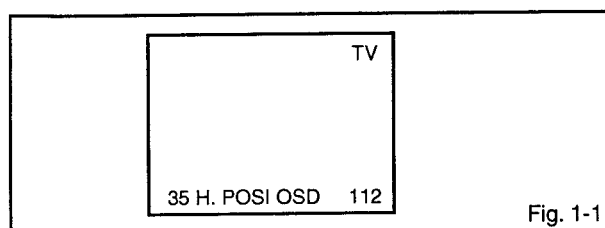

Fig. 1-1
1. In the condition of NO indication on the screen. Press the VOL. DOWN button on the set and the Channel button (9) on the remote control for more than 2 seconds to appear the adjustment mode on the screen as show in FIG. 1-1.
4. Activate the adjustment mode display of Fig. 1-1 and press the channel button (01) on the remote control to select "RF AGC".
2. Activate the adjustment mode display of Fig. 1-1 and press the channel button (00) on the remote control to select "CUT OFF".
4. Activate the adjustment mode display of Fig. 1-1 and press the channel button (04) on the remote control to select "R CUT OFF".
3. Activate the adjustment mode display of **Fig. 1-1** and press the channel button (08) on the remote control to select "H POSI(50)".
7. Activate the adjustment mode display of **Fig. 1-1** and press the channel button (39) on the remote control to select "H POSI(60)".
3. Activate the adjustment mode display of **Fig. 1-1** and press the channel button (11) on the remote control to select "V SIZE(50)".
7. Activate the adjustment mode display of **Fig. 1-1** and press the channel button (12) on the remote control to select "V SIZE(60)".
2. Activate the adjustment mode display of **Fig. 1-1**. Press the VOL. UP/DOWN button on the remote control
4. Activate the adjustment mode display of **Fig. 1-1** and press the channel button (17) on the remote control to select "BRIGHT CENT".
1. Activate the adjustment mode display of **Fig. 1-1** and press the channel button (22) on the remote control to select "CONT CENT".